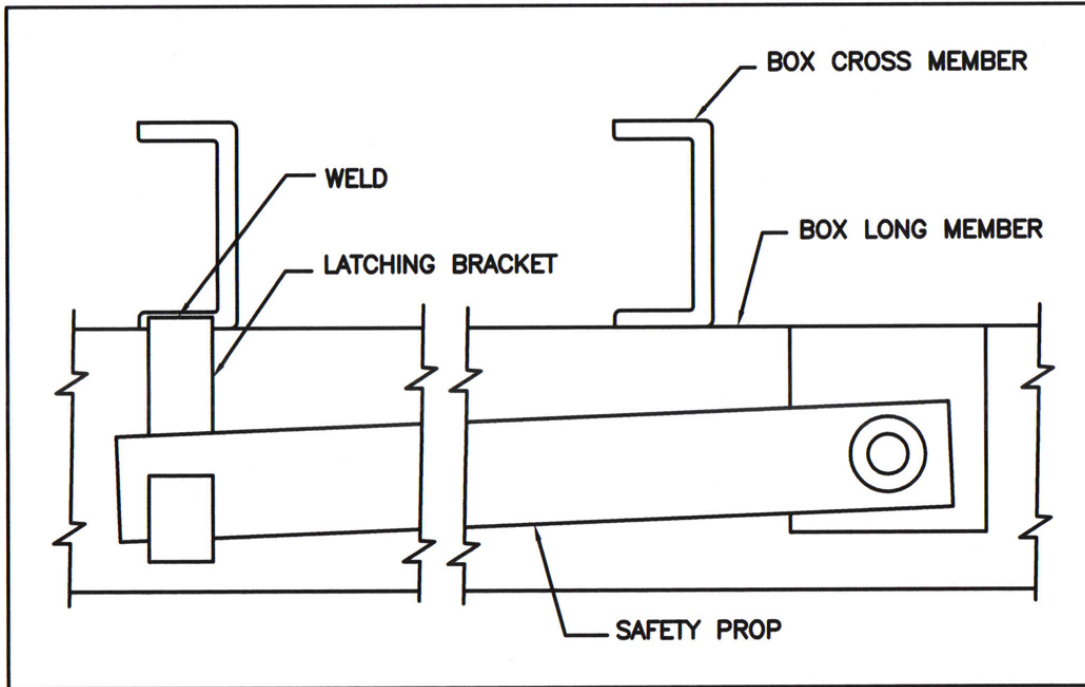

Figure 22: Latching Bracket Location
8. Lower the box and weld the Latching Bracket to the box cross member close to the rub rail and near the end of the Safety Prop as shown in Figure 22. **The latching bracket will be welded so the Safety Prop swings forward (toward the cab) when in the latched storage position.**